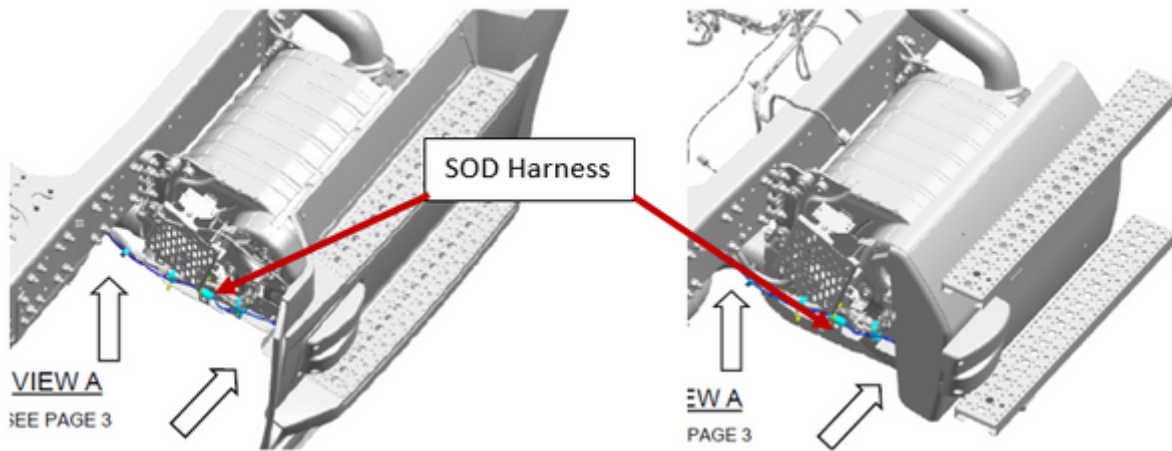

Figure 2: SOD harness installation (Reference: D66-13128-003/4/5)
- Access SOD Harness and inspect to identify rubbing and chaffing spots. Remove existing clipping points and inspect and repair harness as needed. Refer to Figure 2 for SOD Harness installation.